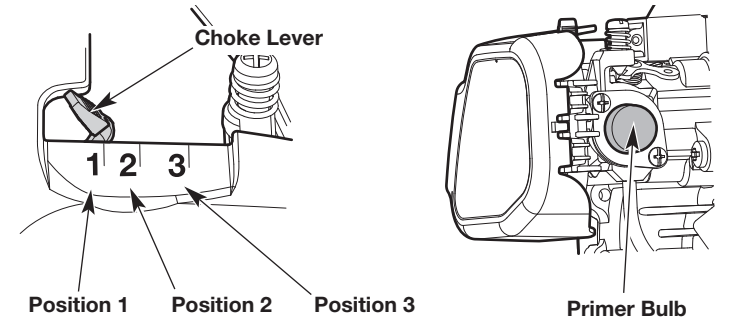

Fig. 6
1. Slowly press and release the primer bulb **10 times** (Fig. 6). If fuel cannot be seen in the primer bulb, press and release the primer bulb until fuel is visible.
2. Move the choke lever to **Position 1** (Fig. 6).
6. Move the choke lever to **Position 2** (Fig. 6).
9. Move the choke lever to **Position 3** (Fig. 6). Allow the engine to warm up for an additional 60 seconds. The unit may be used during this time.
IF... the engine hesitates, return the choke lever to **Position 2** (Fig. 6) and continue the warm-up.
7. Move the choke lever to **Position 2** (Fig. 6).
11. Move the choke lever to **Position 3** (Fig. 6). Allow the engine to warm up for an additional 60 seconds. The unit may be used during this time.